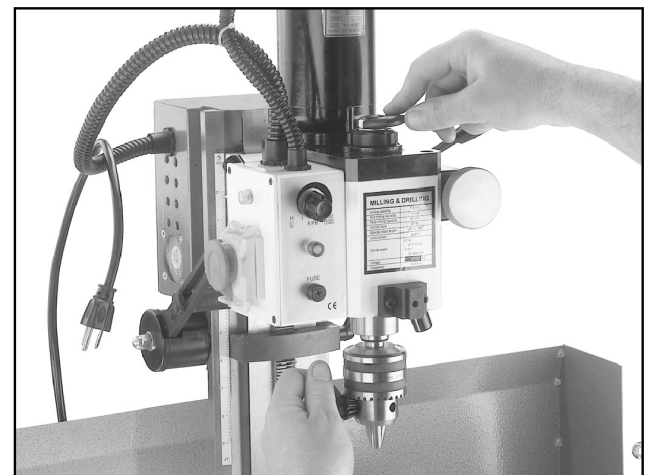

Figure 9. Removing mill / drill spindle lock nut.
3. Use a 19 mm wrench, as shown in **Figure 9** to remove the spindle draw nut.